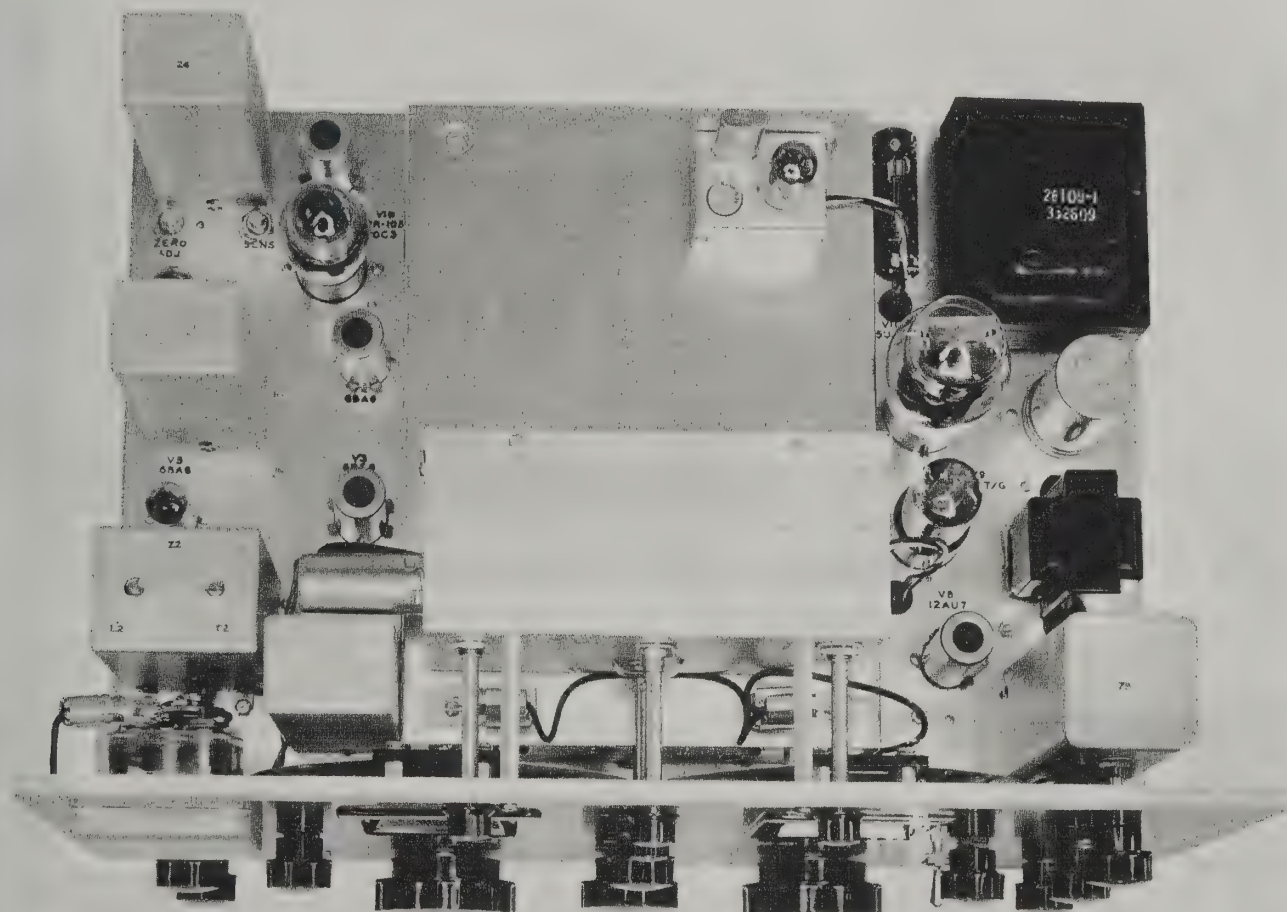

Figure 9. Top View of Chassis
- b. Change signal generator frequency to 1.25 MCS as shown in Figure 9. Set MAIN TUNING dial on 1.25 MCS to correspond. Adjust trimmer capacitor C73 to tune in signal, and C69 for maximum response.